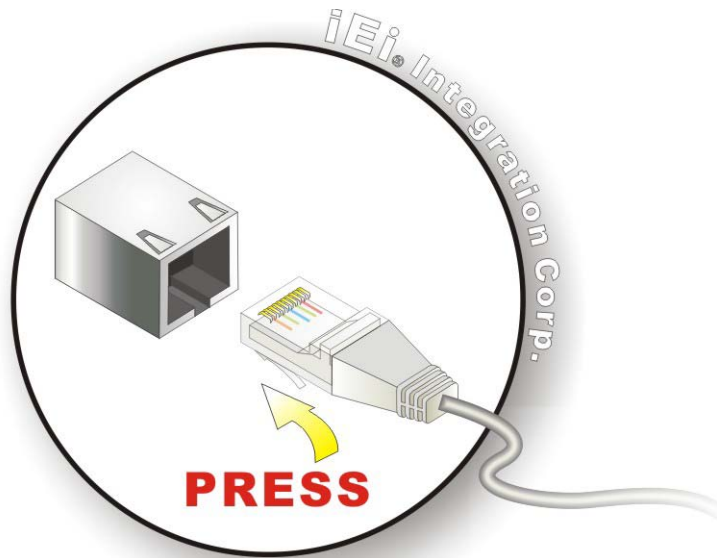

Figure 4-5: LAN Connection
Step 2: Align the connector. Align the RJ-45 connector on the LAN cable with the RJ-45 connectors on the HYPER-BT. See **Figure 4-5**.